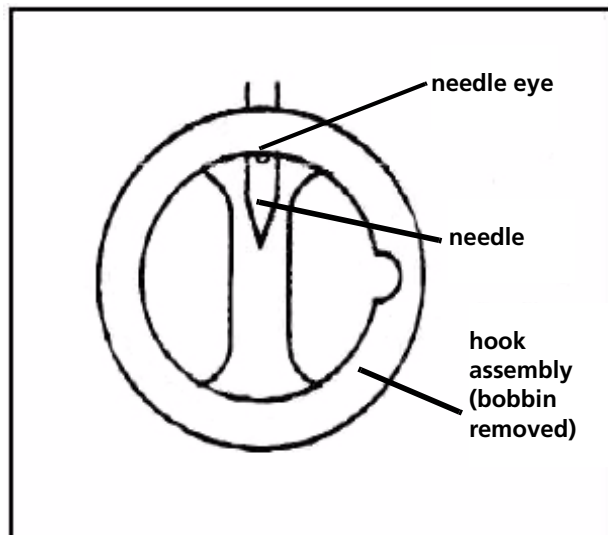

Figure 3-20
4. Look directly into the hook assembly and check the location of the needle's eye compared to the figure. Not more than 1/8 of the needle's eye should be visible in the hook assembly (see *Figure 3-20*).
5. Loosen the set screw on the needle stud and move the needle bar up or down until needle depth is correct. (One eighth of the needle hole should be visible as shown in *Figure 3-20*.) Repeat step 4, then repeat this step again if the needle depth is not correct.